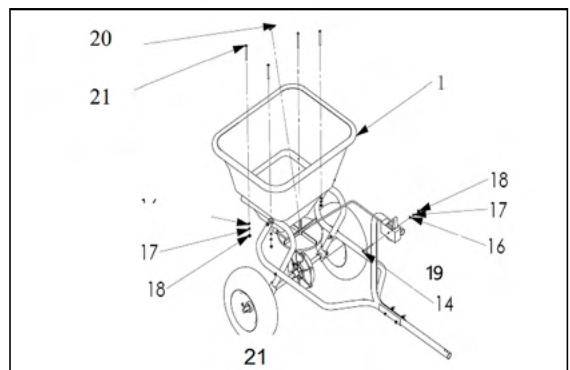

FIGURE 5
Attach the control cable (1-1) to front bracket (9) with screw M6x55 (19), small flat washer (16), lock washer(17) and cable lock nut (22). (Note: Control cable (1-1) is factory installed onto hopper) (Figure 5)